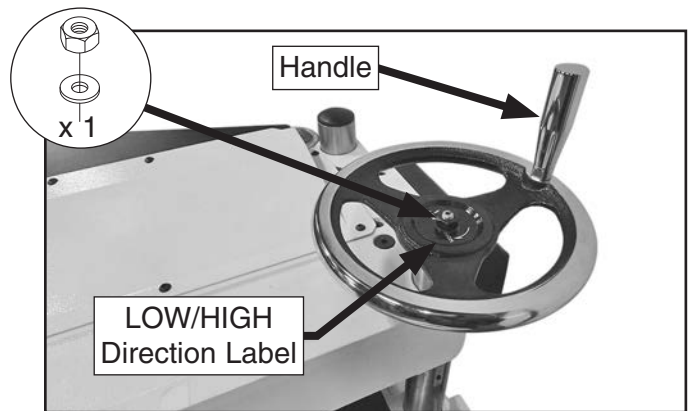

Figure 11. Headstock elevation handwheel installed.
6. Slide LOW/HIGH direction label onto handwheel shaft, and secure handwheel with 10mm flat washer and M10-1.25 hex nut (see **Figure 11**).
7. Thread handwheel handle into handwheel (see **Figure 11**) and tighten with wrench.